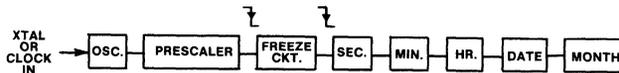
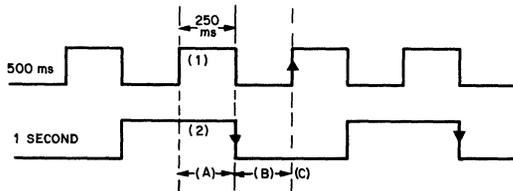

FIGURE 14. COUNTER SERIES STRING
FIGURE 15. FREEZE-CIRCUIT TIMING WAVEFORMS
The counter-series string is clocked by the negative transition of the one-second clock. This clock transition must pass through the freeze circuit before toggling the counter-series string, as shown in Figure 14. The freeze circuit creates a "window" 250 milliseconds wide shown as time (A) in Figure 15. If the counter reads or writes (for addresses other than address 7) are performed during this window, the clock transition is held and is not allowed through the freeze circuit until time (C) Figure 15, when the transition is inserted into the counter series string. If counter accesses are initiated just before the one-second-clock transition, the clock would toggle the counters 250 milliseconds later. Therefore, a requirement when using the real-time clocks is to finish operations within 250 milliseconds of the initial access.
If the clock is accessed during time (A), Figure 15, and then accessed again at time (C), when the counter is allowed to toggle, ripple problems would occur. To preclude this problem, a second window is created by the freeze circuit during time (B). This window will allow a write to address 1 to immediately reset the freeze circuit and clock the counters. Subsequent accesses to the real-time clock will occur well after the clock has rippled through the counters.